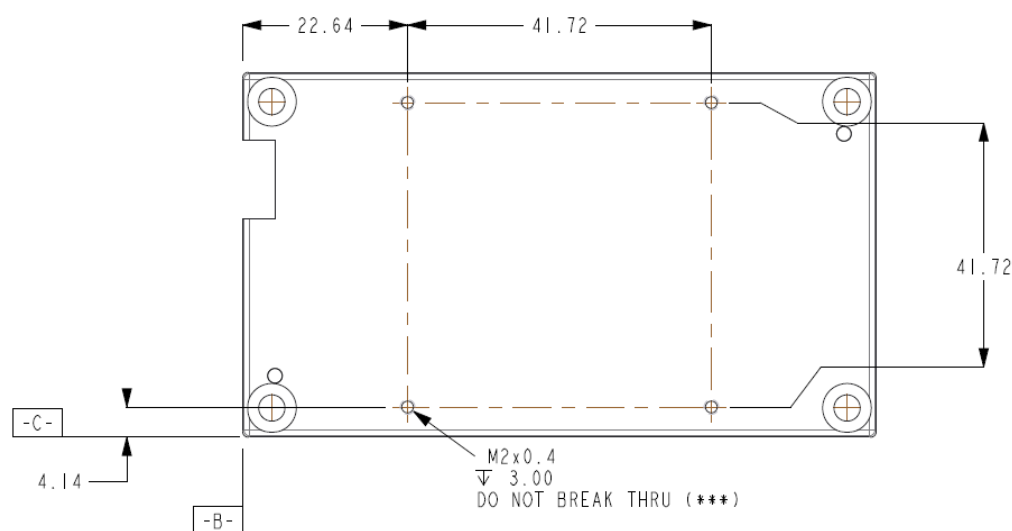

Figure 3-4. Heat Sink Mounting Pattern
As noted in the thermal section, the mechanical design of the system must ensure good contact between the thermal solution and the center of the TTP. The TTP is provided with mounting holes to accommodate mounting options for a heat sink. M2 screws should be used for mounting a customer's heat sink. The depth of the M2 threaded hole on the TTP is 3.0 mm maximum as shown in Figure 3-4. Hardware threaded beyond the 3.00 mm depth could lead to permanent damage.
- ▶ M2 screw depth requirements – Refer to Figure 3-4.